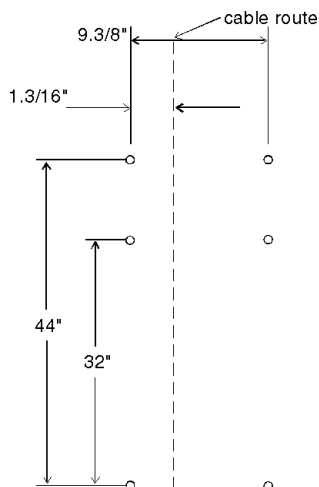

Figure 1: The Actuator installation bolt pattern.
2. Mount the dump actuator using the mounting hole patterns shown in Figure 1. If the horizontal seam bolts